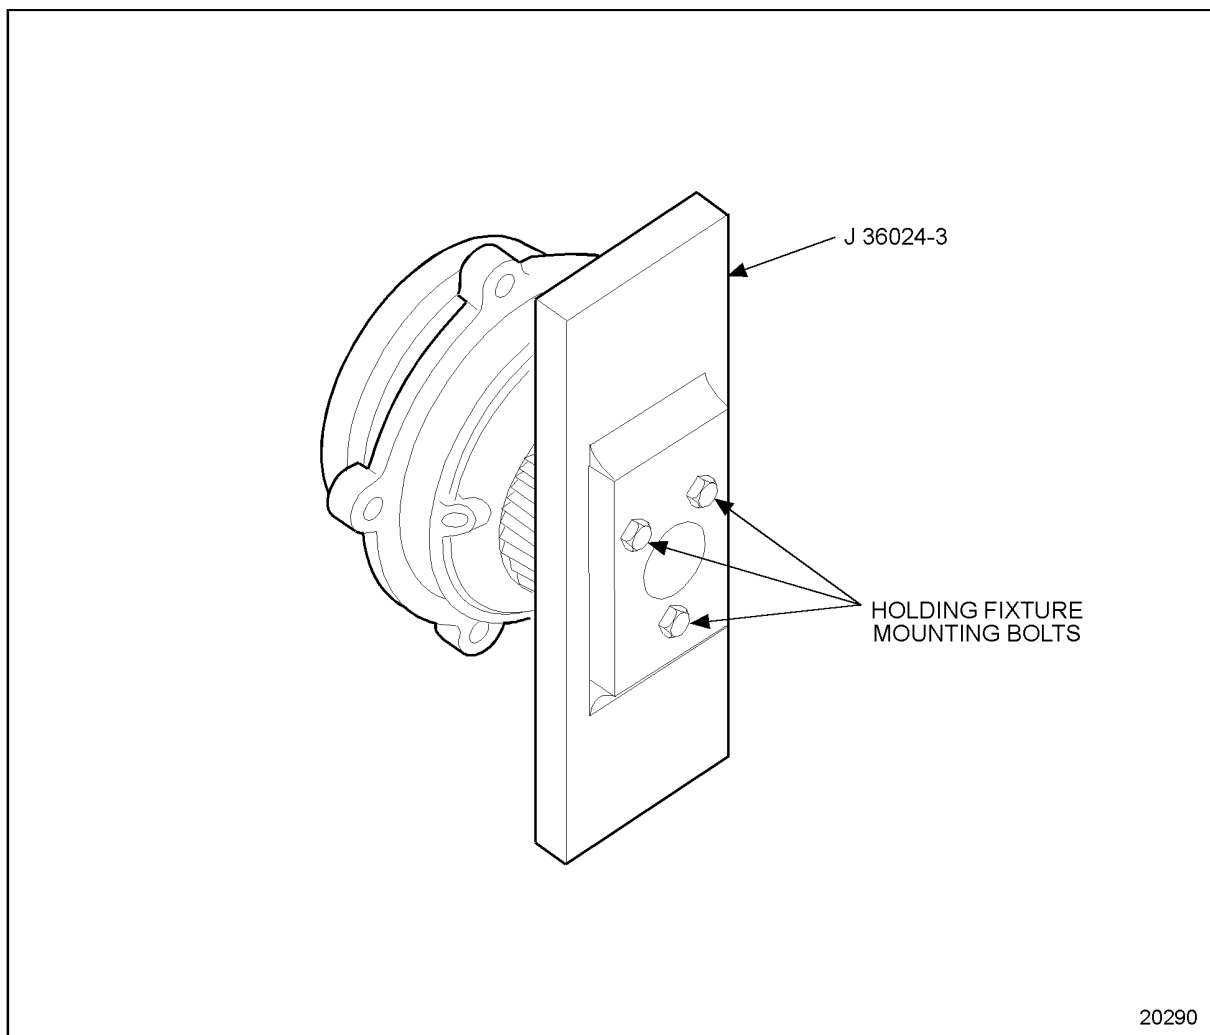

Figure 1-389 **Holding Fixture**
1. Attach the accessory drive gear to the holding fixture, J 36024-3 part of J 36024-C, using the three bolts provided. See Figure 1-389.